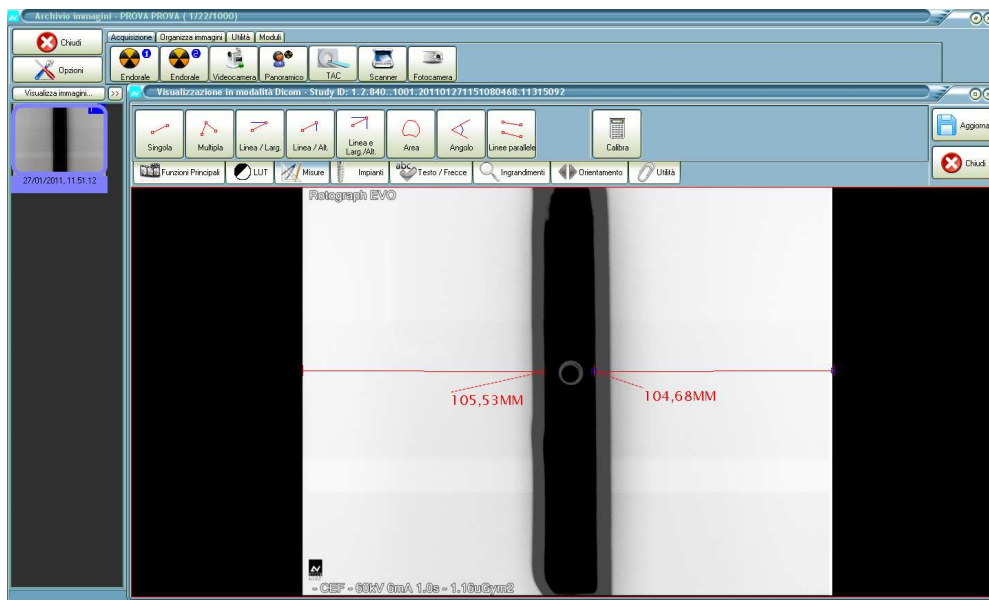

Figure 6-26
- If the image is not symmetric in the window (Figure 6-26), it will be necessary to adjust the CEPH sensor position (see paragraph 9.7.2).